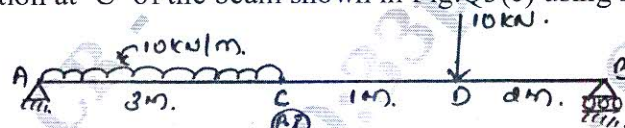

Fig.Q5(c)
c. Determine the deflection at 'C' of the beam shown in Fig.Q5(c) using strain energy method.